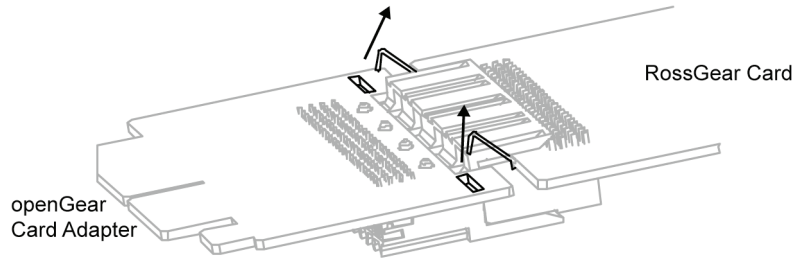

Figure 13. Pulling Upwards on the openGear Adapter Retaining Clip — Top View
4. Gently pinch and tilt the clip arms away from the openGear Card Adapter until they are perpendicular to the RossGear card. Refer to **Figures 13** and **14** for details.